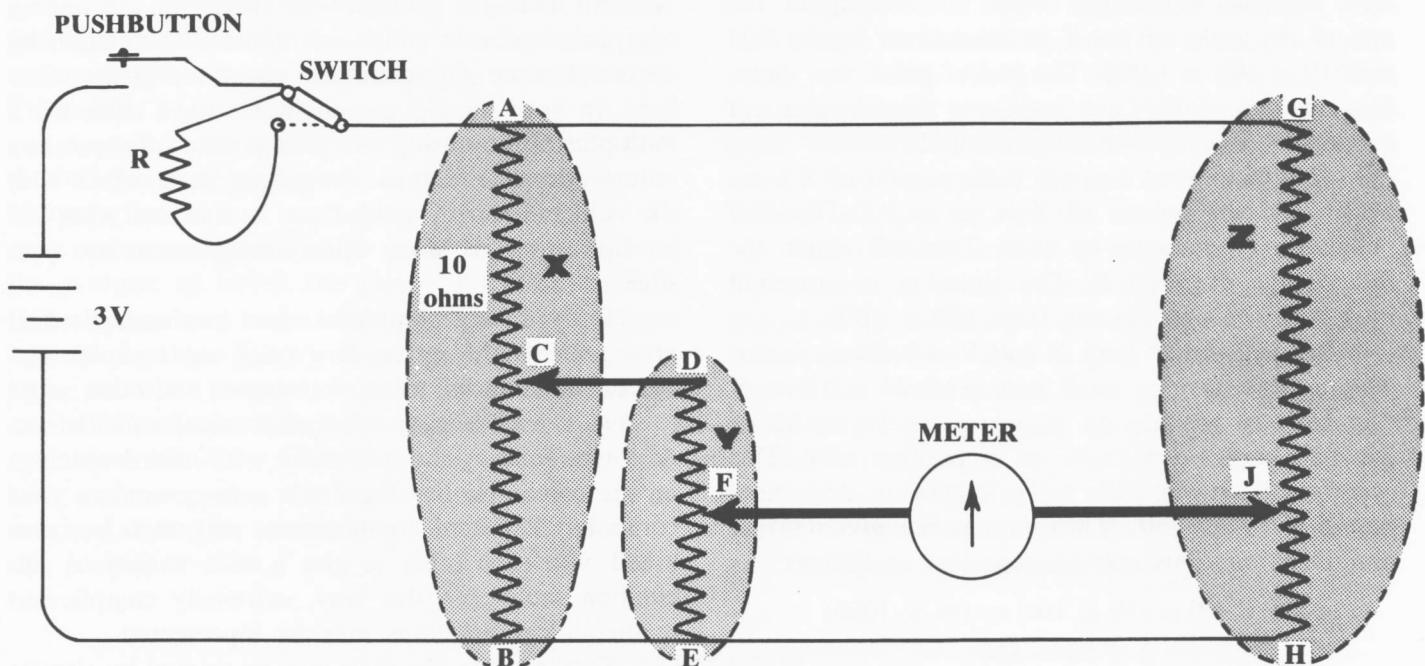
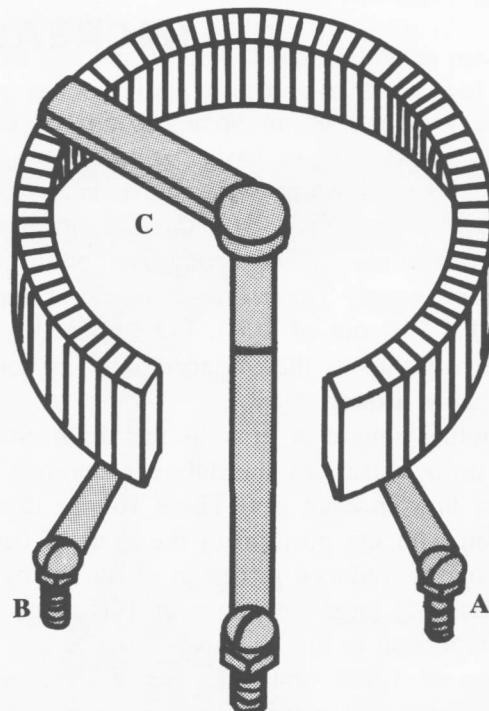

Fig. 24
Fig. 25
The electric circuit of your analog computer is shown in Fig. 24. The dotted oval marked X represents potentiometer X. The three terminals on the pot are indicated by A, B, and C. A and B, the two outer terminals, are the ends of a long coil of resistance wire. The coil and the end terminals are shown in Fig. 25. A sliding arm (C in Figs. 24 and 25) moves along the entire length of the resistance when the shaft is rotated. As it moves from B toward A, it includes a
Potentiometer Y is shown in Fig. 24 with its three terminals D, E, and F. It is shown smaller than pot X merely for clarity in the drawing and not because it really is that way. Potentiometer Z is shown with its three terminals G, H, and J.
Suppose that the position of the rotating part of pot X (C in Fig. 24) is at the halfway point and that the position of the rotating part (F) of pot Y is also at its halfway mark. Terminal C of pot X then takes off half of the voltage drop from A to B. Then terminal F of pot Y takes off half of that. The net result is that the final voltage drop from F to E is  $\frac{1}{2} \times \frac{1}{2}$  or  $\frac{1}{4}$  of the original amount.
Suppose we set the rotation point of pot Z (J in Fig. 24) at a fourth of the way from H to G. The voltage drop from J to H will be a fourth that from G to H.
Finally, what happens if we move the pointers of X and Y to zero? In that case, there is no voltage drop from F to E (Fig. 24). Pointer J on pot Z must be moved to the zero position to produce the same voltage drop, as indicated by the meter. We now have  $0 \times 0 = 0$ . Thus, all positions of Z give multiplications of X and Y when the meter reads zero.